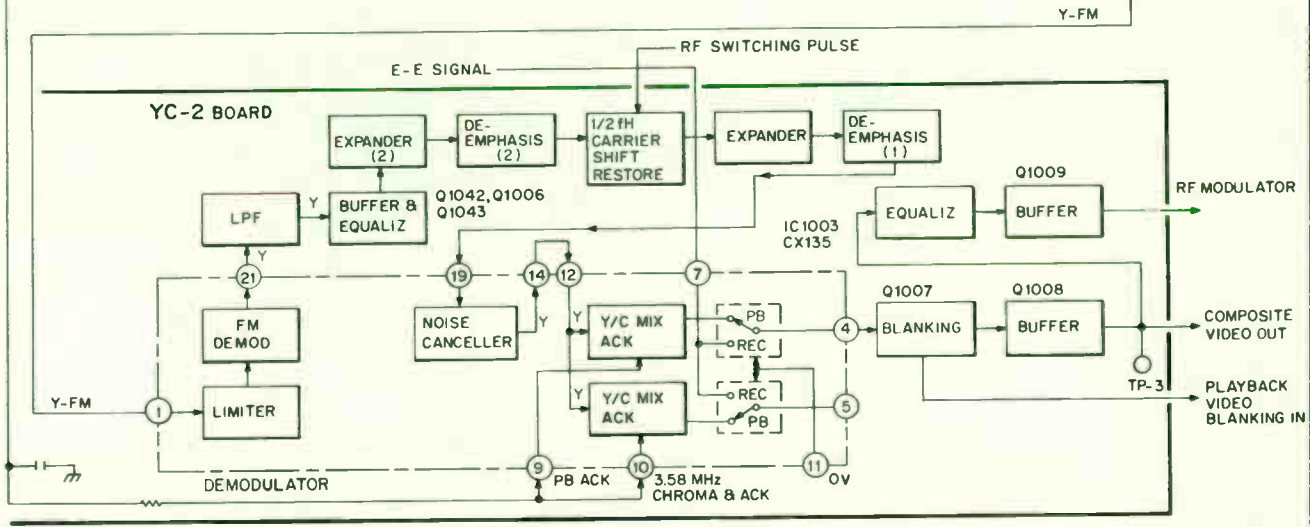

Fig. 2-15. Block diagram of luminance playback system (courtesy of Zenith).
Before delving into the chroma circuitry we will touch on the luminance circuits (Fig. 2-15) so you will have a better understanding of the total VCR system. As the video heads revolve during the playback mode they pick up the recorded information from the video tracks on the video tape. The combined frequency modulated luminance (Y) and 688 kHz chroma signals are coupled through the rotating transformer to the ARS board. There is a "chain" of three functional blocks for the output signal of each of the two video heads. The blocks, mostly inside IC2001 are: the preamplifier, the